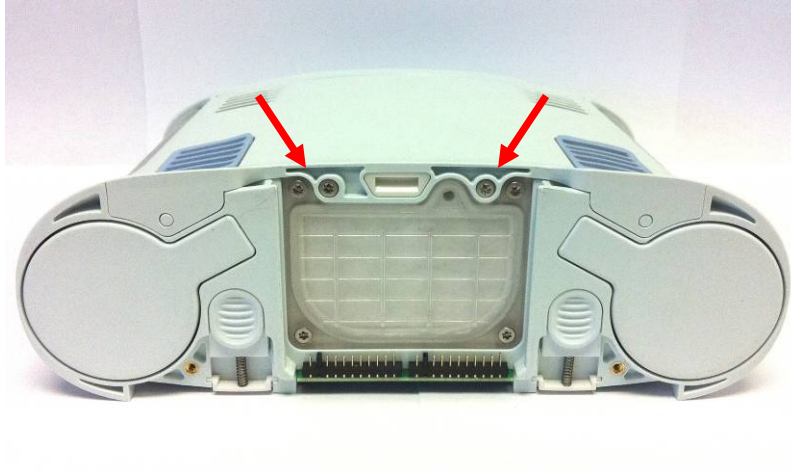

Figure 4: Location of screws
4. To remove the front housing, place the device on its back side and remove the two screws that secure the front housing to the bottom of the chassis (Figure 4).